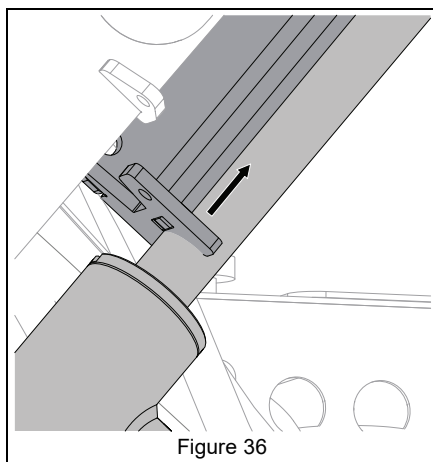

Figure 36
2. Raise lift arms to maximum height, taking pressure off lift arm support. See Figure 36.